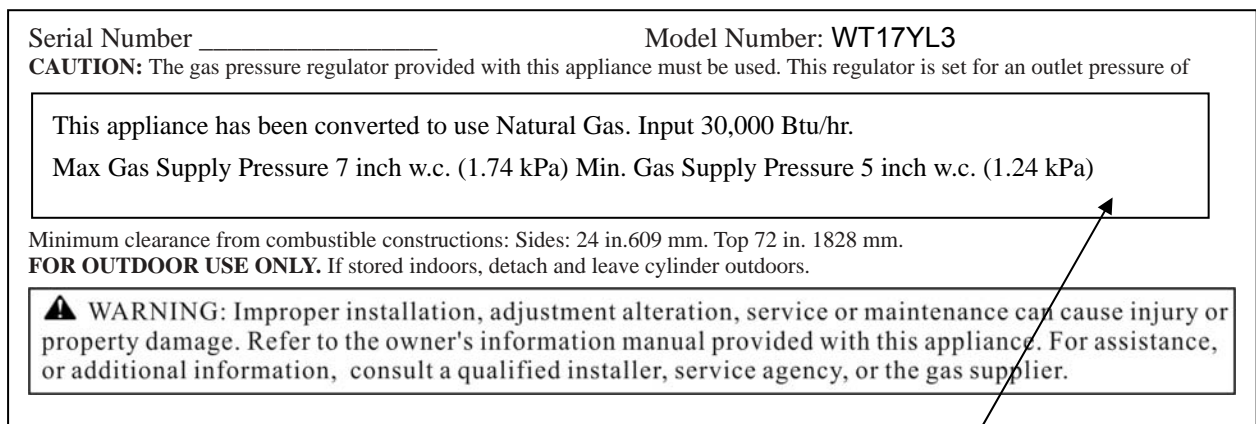

Figure 5
10. Stick the conversion label on the rating plate as shown in Figure 5.